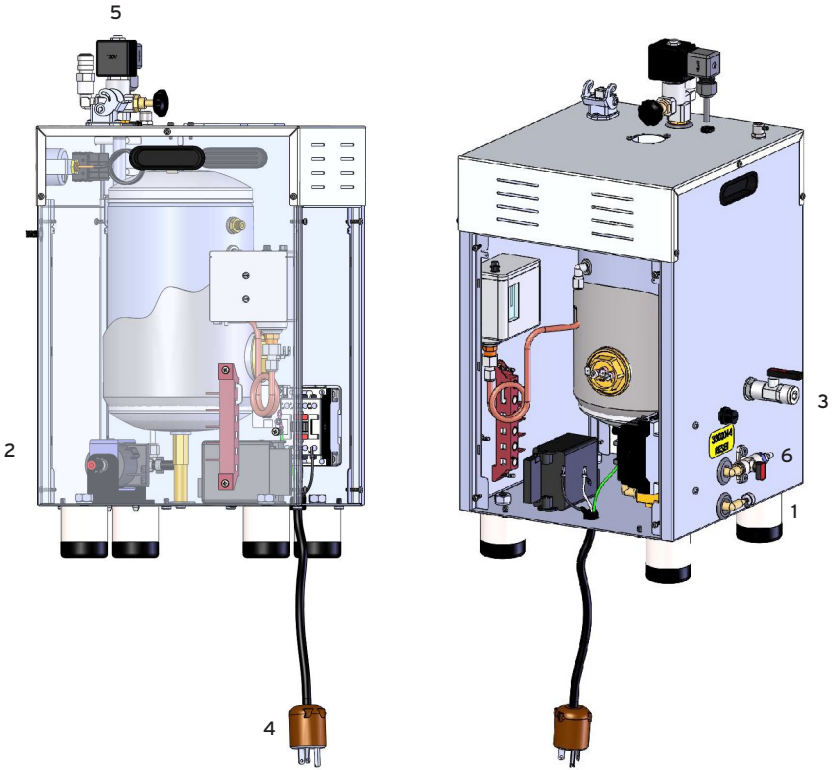

Fig. 5
1. Water connection (tap with hose holder); the steam generator can be connected to the tap with hose holder labelled WATER INLET (fig. 5 #1), placed on the Boiler, via a rubber tube which must have a pressure capacity of at least 100 lbs. This rubber tube must be fixed tightly with 2 hose clamps. (NOTE: before inserting the rubber tube into the water inlet, you must flush a few litres of water in order to clean the conduit).
3. After switching on the Boiler (A) and the irons and the steam switch (B), wait for the Boiler green pilot light to switch off (C) and for the pressure gauge to indicate 50-60 lbs. At this point press the steam button 3 or 4 times, so that the steam comes out: this must be carried out in order to heat up the hose that delivers steam to the iron steam wand/nozzle. This prevents water leakage (the steam iron must always be held in such a way as not to harm the operator).
4. To adjust steam flow, regulate the steam adjustment tap (fig. 5 #6: solenoid valve).
5. The Boiler is now ready for use. During use, the “steam ready” pilot light switches on and off (C).